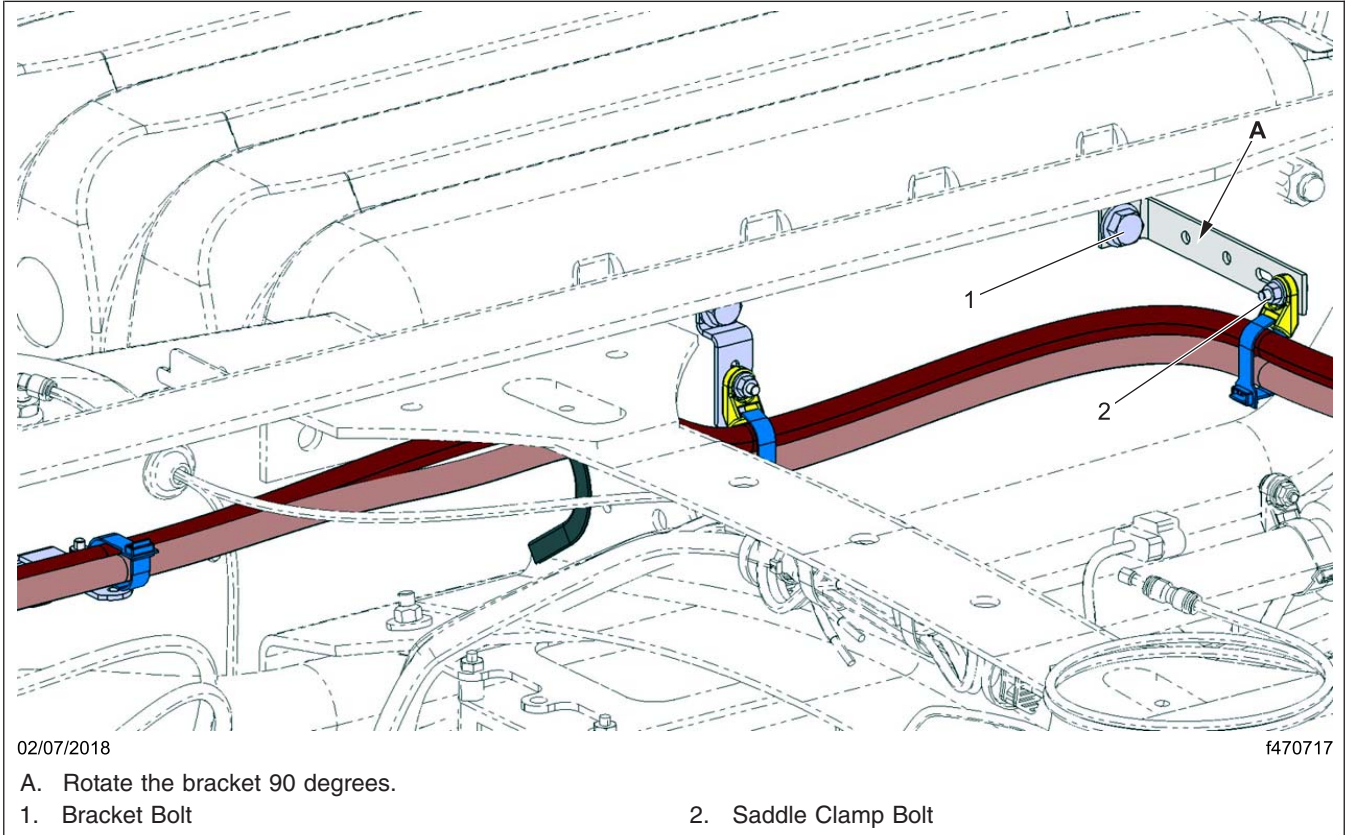

Fig. 5, Rotating the Bracket 90 Degrees
5. Cut the tied band and loosen the bracket bolt and saddle clamp bolt, then reposition the bracket 90 degrees to the position shown in Fig. 5, then tighten the bolts.